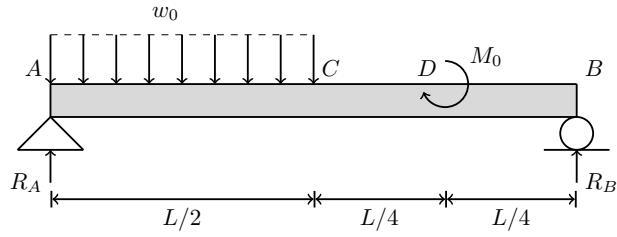

Figure 9
9. Consider the following loading condition on a simply supported beam as shown in Fig. 9. Draw the elastic curve for the given problem and determine the maximum deflection and slope.